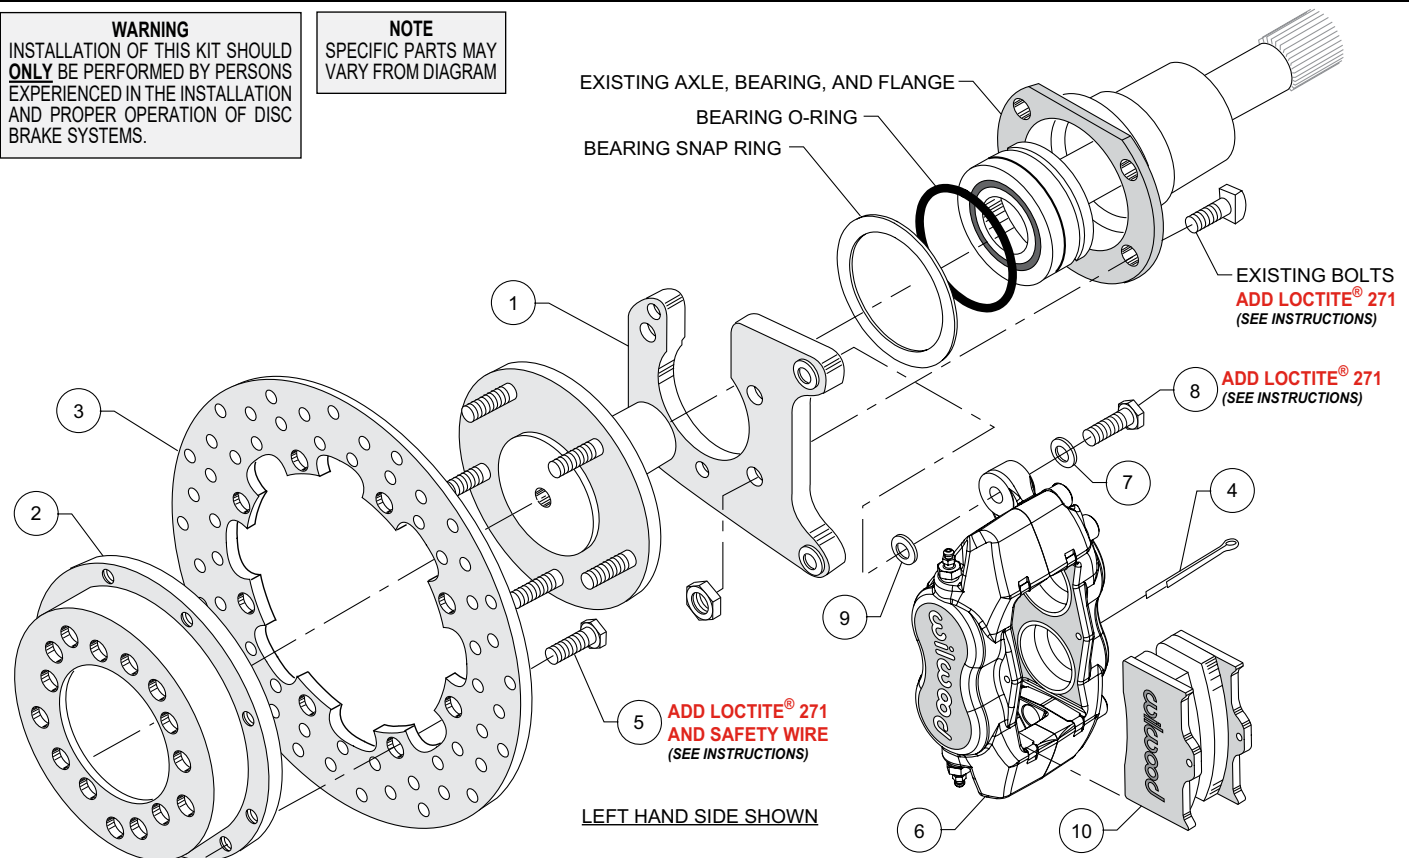
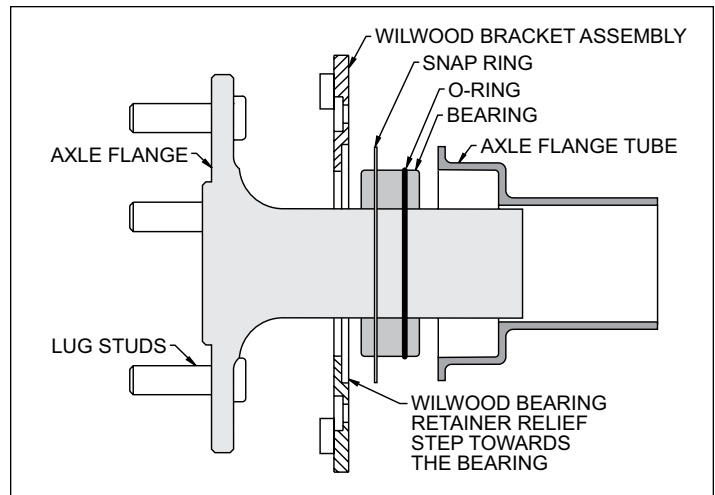
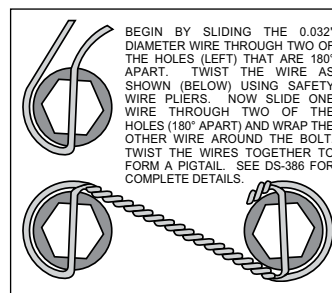
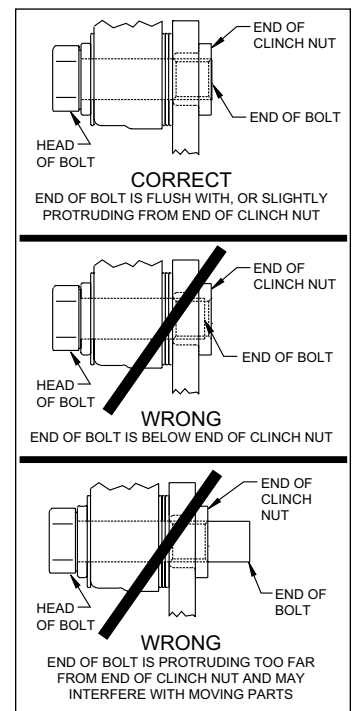

Figure 3. Typical Installation Configuration
Figure 5. Retainer / Axle Diagram
Figure 6. Safety Wire Diagram
Figure 7. Clinch Nut Engagement Diagram
**NOTE:** Numbers in parenthesis refer to the parts list and Figure 3 on the preceding pages.
**CAUTION:** All mounting bolts must fully engage clinch nuts. Be sure to check that all bolts are either flush or protruding through flanged side of clinch nut after shimming, Figure 7.
- Temporarily remove the snap ring and o-ring from the bearing. Use care so as not to damage those components. Orient the bracket assembly (1) as shown in Figure 3 and slide it onto the axle and past the bearing. Reinstall the snap ring and o-ring onto the bearing, again using care. Insert the axle and bracket assembly into the axle housing. Ensure that the bracket assembly plate fits flush against the axle housing flange. **NOTE:** The bearing snap ring should be sandwiched between the axle housing flange and the new bracket assembly, Figure 5. Secure bracket assembly to the axle housing flange using the Original Equipment Manufacturer (OEM) bolts and nuts, Figure 3. Stock OEM hex nuts that retain the bracket (1) should be on the wheel side of the bracket. Apply red *Loctite*® 271 to the OEM bolt threads and torque to OEM specifications. **NOTE:** Make sure the heads of the caliper mounting bracket insert nuts are FACING OUTWARD TOWARDS THE WHEEL, see Figure 3.
- Orient the rotor (3) and the hat (2) as shown in Figure 3. Attach rotor to hat using bolts (5). Apply red *Loctite*® 271 to the bolt threads and torque to 25 ft-lb using a criss-cross pattern. Safety wire bolts (5) using standard 0.032 inch diameter stainless steel safety wire as shown in Figure 6. Please refer to Wilwood's data sheet DS-386 (available at [www.wilwood.com/Pdf/DataSheets/ds386.pdf](http://www.wilwood.com/Pdf/DataSheets/ds386.pdf)) for complete safety wire installation instructions.
- Align the correct hole pattern in the hat (2) with the stud pattern on the axle flange and slide into place, Figure 3. **NOTE:** The rotor/hat must fit flush against the axle flange or excessive rotor run out may result. Install three lug nuts (finger tight) to keep the rotor/hat assembly in place while continuing with the installation. **NOTE:** Some OEM and after market axles come with stud sizes larger than 0.50" diameter. Verify stud size and have a qualified machine shop drill the bolt circle of the hat/rotor to the correct stud size, if necessary.
- NOTE:** Please reference the caution statement at the beginning of the assembly instructions. Mount the caliper (6) onto the caliper mounting bracket (1) using bolts (8) and washers (7), as shown in Figure 3. Initially place one .032" thick shim (9) on each bolt between the caliper and the bracket, Photo 1. Temporarily tighten the mounting bolts and view the rotor (3) through the top opening of the caliper. The rotor should be centered in the caliper, Photo 2. If not, adjust by adding or subtracting shims between the bracket and the caliper. Always use the same amount of shims on each of the two mounting bolts. **NOTE:** The end of each bolt must be flush with or slightly protruding from the head of the clinch nut, as shown in Figure 7. If necessary place spare shims between washer (7) and caliper mounting ear to achieve the proper clinch